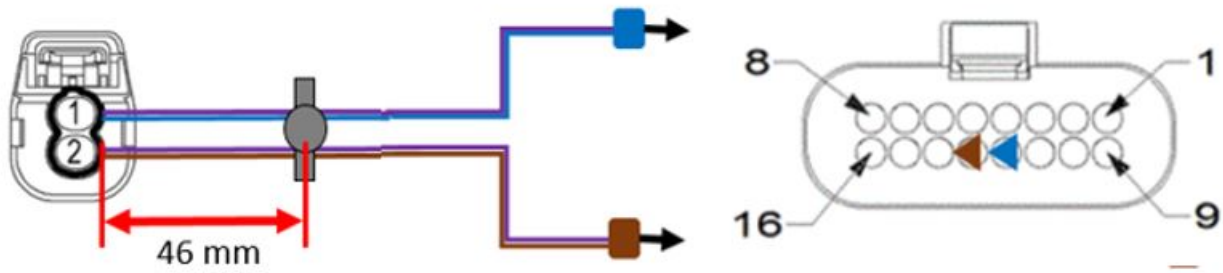

Fig. 6
10. Remove the two cavity plugs from cavity 12 and 13, connector XY110A (Fig. 6) .